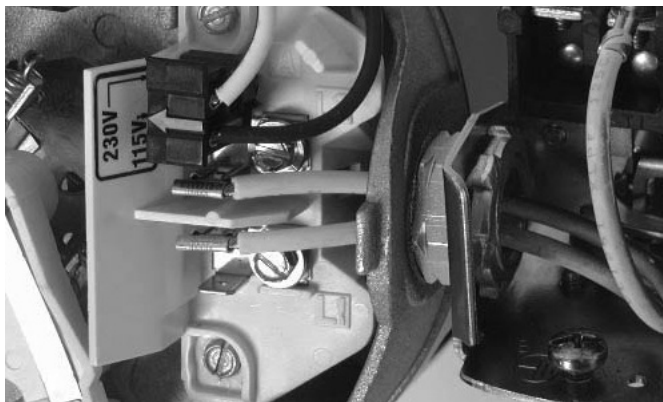

Figure 7: Voltage set to 115 V, Plug Type
3. Move the voltage change plug to the 115 V position. The plug will now cover 2 metal tabs and the arrow on the plug will line up with the 115 V arrow on the label (see Figure 7).